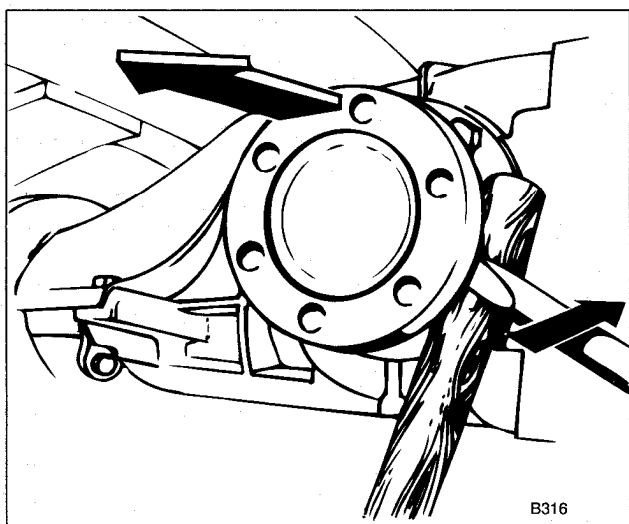

**Fig. 2.** Drive flange being pried off. For leverage, use a wooden dowel as shown.
3. Pry drive flange from final drive. See Fig. 2.